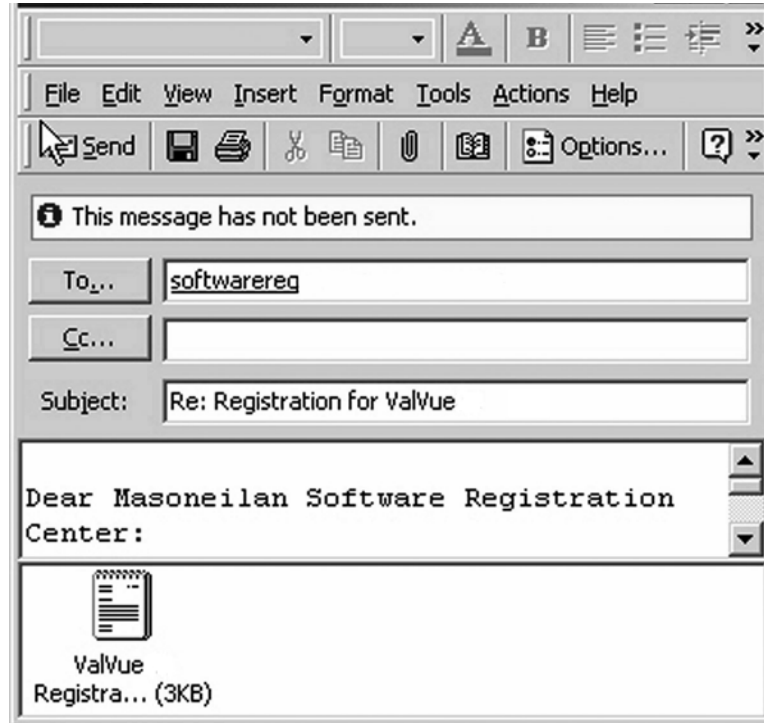

Figure 17 Emailing Registration Info
9. When you select email registration info, ValVue launches your email service and automatically attaches the registration and Masoneilan Software Registration Center (Figure 17). Click **Send** to email the registration.